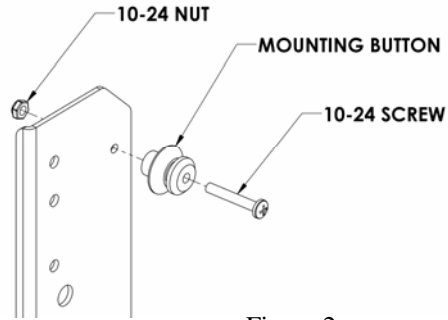

Figure 2
1. Using a 10-24 Phillips head screw and 10-24 Nylock nut, secure mounting button as shown in Fig.2 & 3.